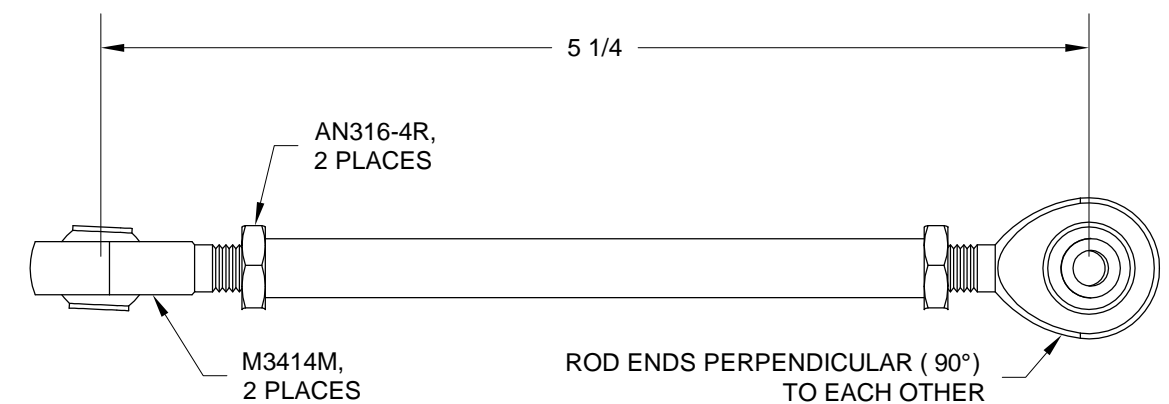

FIGURE 3: ROLL SERVO PUSHROD ASSEMBLY
Step 7: Assemble the F-1291 Roll Servo Pushrod and hardware as shown in Figure 3 to make the Roll Servo Pushrod Assembly.